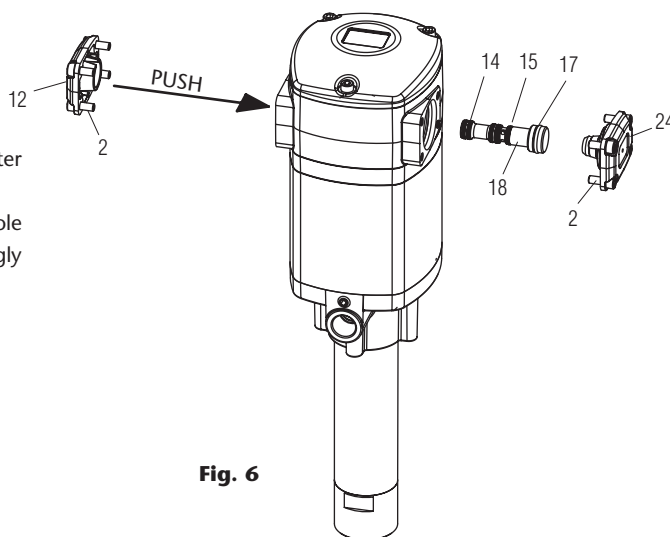

Fig. 6
1. Unscrew the 4 bolts (2) from the cover (24) and remove it.
2. Unscrew the 4 bolts (2) from the cover (12) and remove it.
3. Gently strike the spool (18) with a plastic tool by its minor diameter side (see fig. 6), through the motor, and remove the spool (18).
4. Replace the seals 4x14, 15 and 17 with new ones or replace the whole spool (18) with its seals factory installed (kit 539505). This is strongly recommended in order to ensure the correct assembly of the seals.